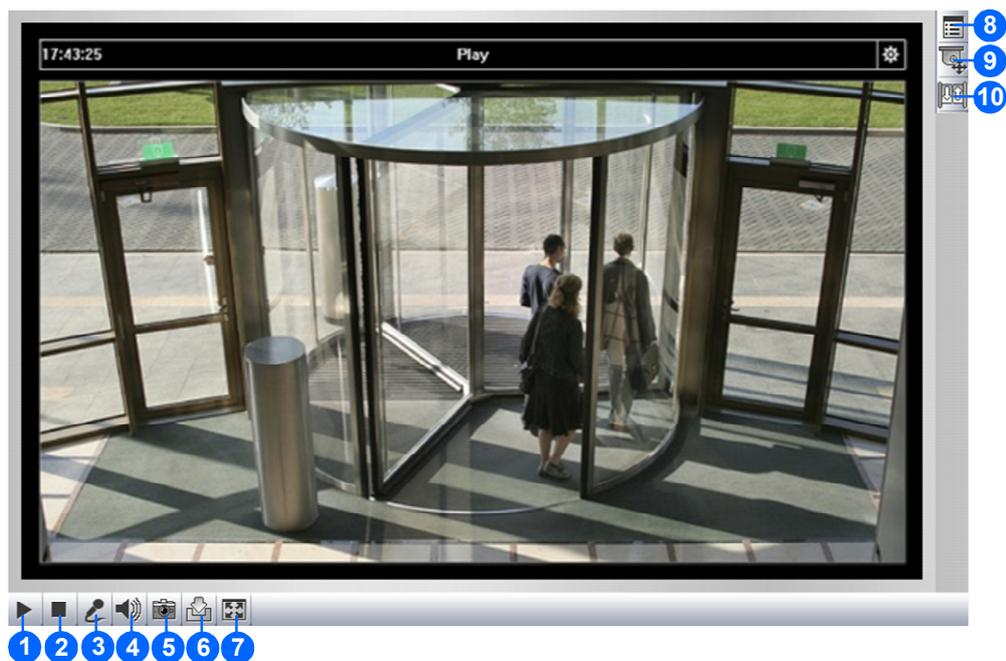

Figure 3-12
1. Click the **Snapshot** button (No. 5, *Figure 3-12*). The Save As dialog box appears.
1. Click the **File Save** button (No. 6, *Figure 3-12*). The Save As dialog box appears.
4. To stop recording, click the **Stop** button (No. 2, *Figure 3-12*).
To configure this function, click the **Show System Menu** button (No. 8, *Figure 3-12*), and select **Alarm Notify**. This dialog box appears.